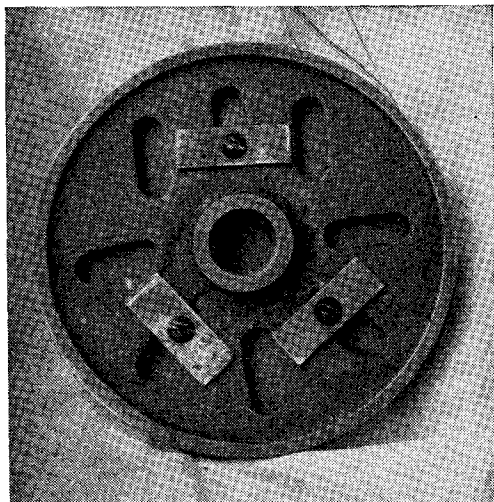

Fig. 4. How to clamp a wood disc on to an iron faceplate at the back
draw (DH), also touching the circle, and complete the square (AGHD) on the circle. From any corner (say A) set off a distance (A-1) equal to $\frac{2}{7}$ ths of the circle diameter or side of the square—this, if (AD) be 7 in. (A-1) will be 2 in. By joining 1 to 2, touching the circle, will give a tangent very nearly 45 deg., or near enough. Do the same at (G-4), (H-5) and (D-7). The square is next cut out with a hacksaw or fine-tooth rip saw, tending to cut outwards from the circle rather than inwards, so to avoid undercutting the circle. Before taking off the corners, in the same manner, test the thickness at each with a micrometer. These should tally with one another to within two or three thou. Allowing for the original plank saw cut 1 in. stuff comes out about $\frac{1}{16}$ in. When the corner pieces are sawn off, test the points 1, 2, 3, 4, etc., and measure the highest from the centre to find if, when set central, any will foul the bottom of the gap. If this is so, take enough off each to clear, paring downwards with a sharp firmer chisel. Then set the job on to the lathe iron faceplate as shown in Fig. 4 nearest to third of circle slots will allow. The clamps are cut from $\frac{1}{2}$ -in. \times $\frac{3}{32}$ -in. mild-steel strip, $1\frac{1}{8}$ in. long, and holed centrally with No. 19 drill (0.166 in.). The screws are No. 8 (0.166 in.) iron round-head, of such length to go into the wood not less than $\frac{3}{8}$ in. To centralise the setting, measure exact diameter of the faceplate and scribe slightly larger circle in pencil using circle centre as a guide. To some extent the setting may be out, but if when iron faceplate (which must run flat and true on its lathe) is put on lathe nose, the large circle on mahogany runs out at all, the clamp screws must be eased and the job tapped over and run till true, before finally tightening screws. When completed so far, the outside edge has to be turned to clean up the big circle. (For this, use a very sharp tool held in the slide-rest and having a sharp top rake.) Don't run too fast or the tool edge will heat and soften. It is not intended to use this setting of the wood as a chuck but only to turn the edge and recess the centre to take the threaded nut, and is therefore the back of the accessory.